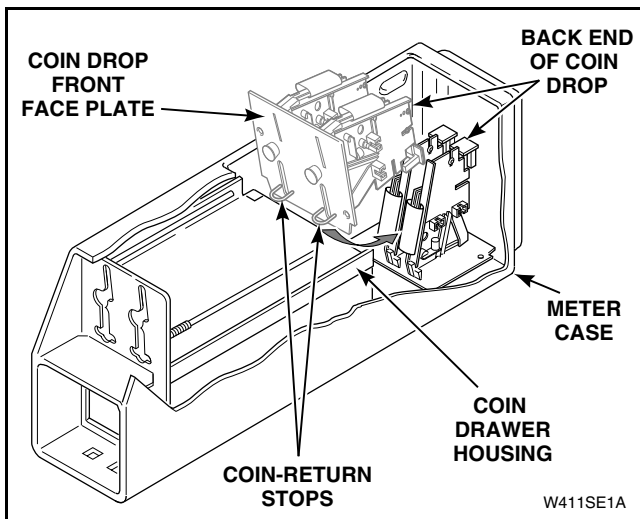

Figure 14
- i. Lift up back end of coin drop until the two coin-return stops slide down past the coin drawer housing, as shown in *Figure 14*.
- j. While holding back end of drop, allow drop's front face plate to rest on bottom of meter case. Refer to *Figure 14*.